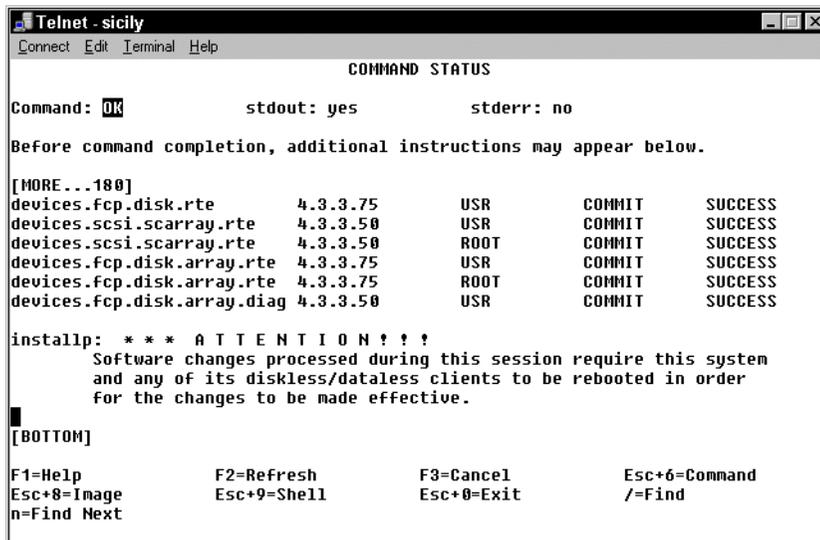

Figure 2-19 Update storage software — results
l. When the status changes from RUNNING to OK, scroll to the bottom of the screen, as shown in Figure 2-19, to check that installation ended in SUCCESS.